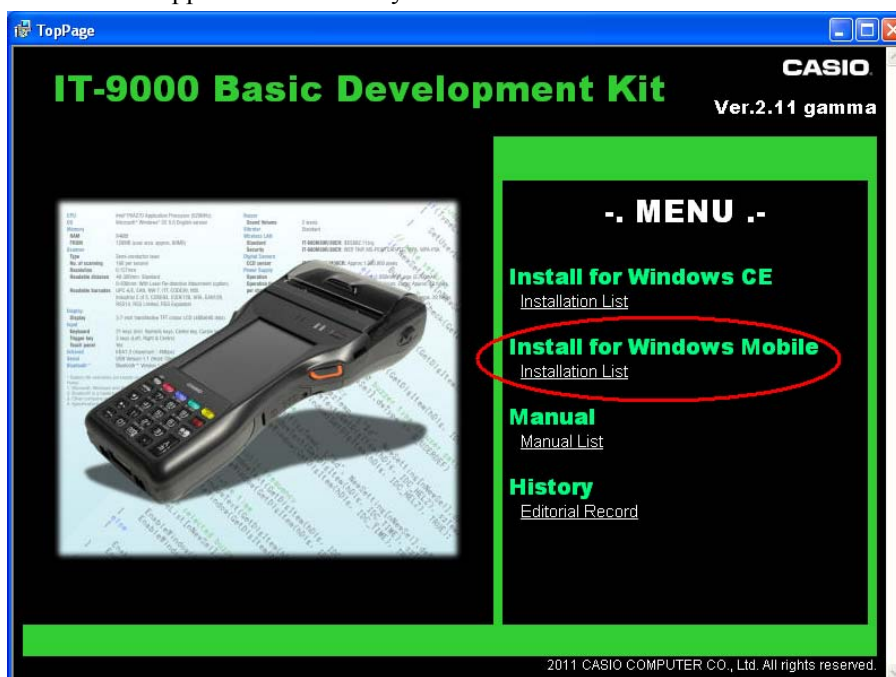

Figure 3.1 The version number in the figure may differ from that of your CD.
2. Click **Installation List** in Figure 3.1. The installation screen appears.